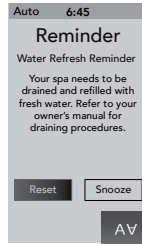

Figure 15.0f
- 24. **Water Refresh Reminder:** This message will appear when the “Water Refresh” timer has expired (Figure 15.0f). The water needs to be drained and refilled with fresh water.